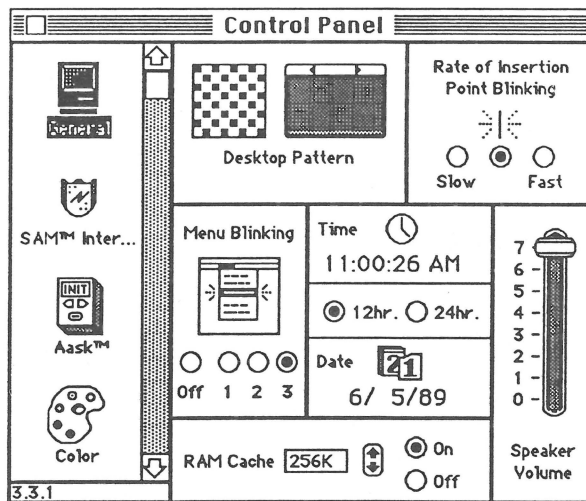

FIGURE 3
3. Before running ConnectTest, make sure the computer's RAM cache is turned off. Do this by selecting the Control Panel under the  menu. When the Control Panel appears, click the **Off** radio button in the RAM Cache box (Figure 3).